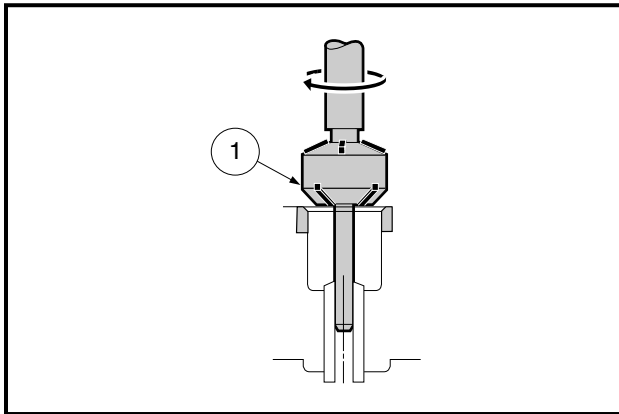

Figure 18-21 Measuring Valve Seats
- 2.2. Measure the seat width of the 45° angle portion at several places around the seat (**Figure 18-21, Page 18-12**).